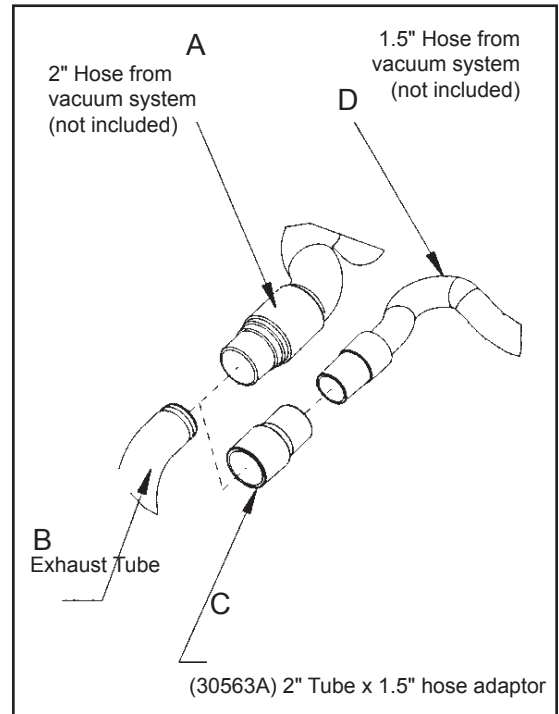

Figure 1
1. Install the 2" x 1 1/2" hose end adaptor (Part No. 30563A) (figure 1, C) over the exhaust tube (figure 1, B).
2. Insert 1 1/2" hose end (figure 1, D) into the adaptor (figure 1, C).